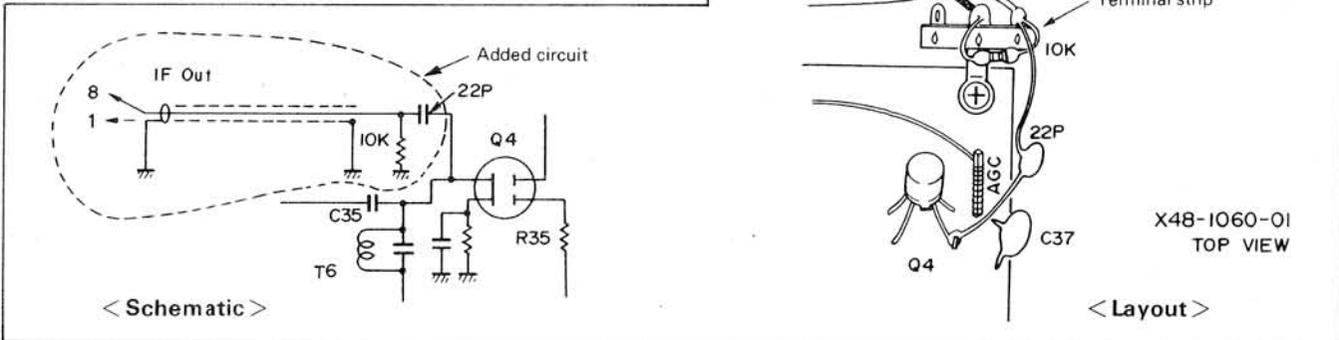

Fig. 5-2B TS-520 IF #2 OUTPUT installation
5. From the second lead of the 22 pF capacitor, add a 10k ohm 5% (or 10%) 1/4W (or 1/2W) resistor to ground. Again, keep leads short. (See Fig. 5-2B)